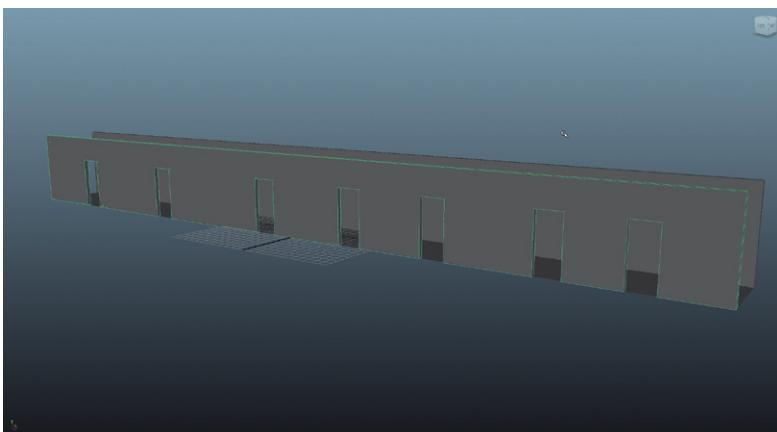

FIG 3.18 Further Boolean Difference functions to create other doorways.
Step 28: Repeat this process (from Steps 24–27) to create six more doorways along what was ETM_HallWallWest (Fig. 3.18).